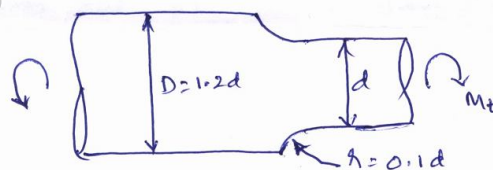

Fig. Q3 (b)
b. A stepped shaft shown in Fig. Q3 (b) has notch sensitivity factor of 0.91. The surface factor of 0.95 and size factor of 0.85. Taking F.O.S as 2, determine the diameter at minimum cross section to sustain a twisting moment that fluctuates between 900 N-mm and 500 N-mm using Soderberg criteria. (10 Marks)